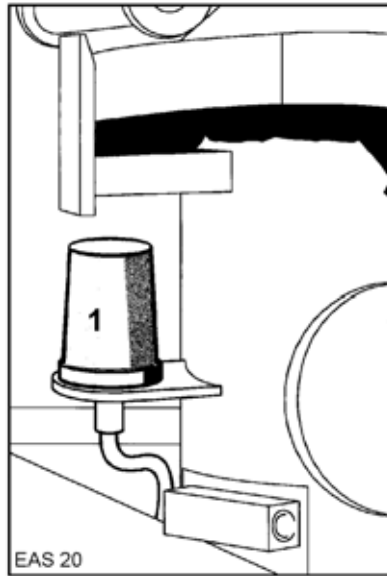

Fig. 513 Rotating beacon.
- The rotating beacon (1) (**Fig. 513**) lights up on the slewing gear of the placing boom.